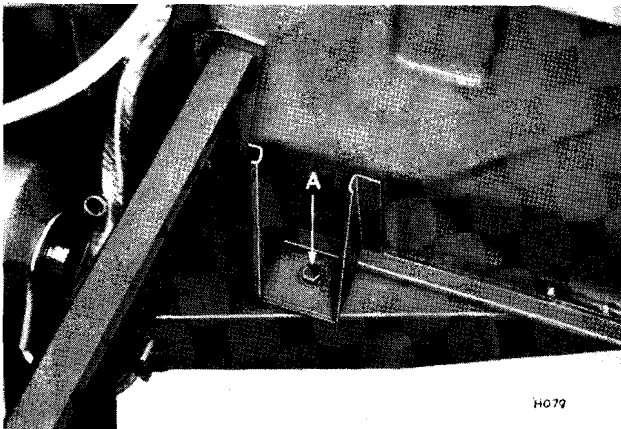

Fig. 56. Dash panel mounting to chassis frame
Referring to page 5-202, release the centre section from the chassis frame and remove two bolts in the engine compartment, adjacent to the dash panel (A) (Fig. 56).
Lift the centre section into position and secure it to the chassis frame using two bolts located in the engine compartment (A) (Fig. 56). Referring to page 5-225, refit the rear end section.